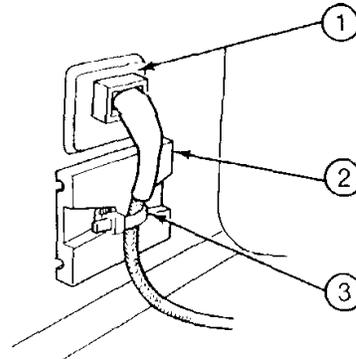

FIGURE 19
39. Replace the LED cable clamp. (Figure 19, Item 1).
40. Place the LED cable in the white plastic holder and install a tie wrap. (Figure 19, Items 2 and 3).